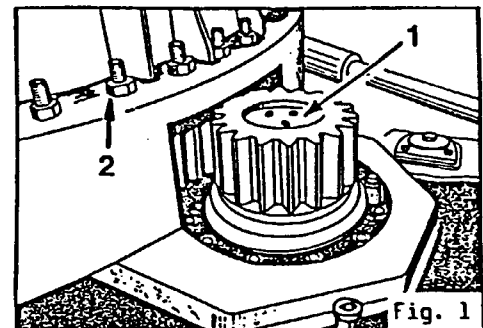

Fig. 1
On particular occasions in the past it happened that the swing pinion retaining bolts item 1 (fig. 1) of the slewing gear reducer backed out. To avoid possible damages we ask you to check the tightening torque of these screws once a month.
The same applies to the pedestal retaining bolts of the slewing rim bearing item 2 (fig. 1).